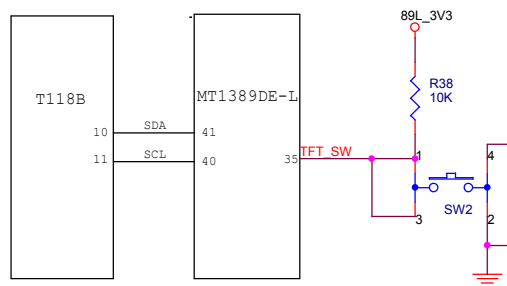

Figure 3.2.7.1 Screen off detect control circuit
1. Audio output circuit block diagram is shown as in the following figure 3.2.7.1:
As shown in the figure 3.2.7.2, after volume adjustment of the audio signals outputted from U8 through VRJ8, input from pin 6, 11 of U10 respectively; audio signals after being amplified output from pin 5, 12 of U10 to headphone socket for perform converse between headphone and speaker.
PT-2303S drive speaker adopts bridge connection. That drives headphone is single ending working mode and its switch between them is fulfilled by HP-IN pin. As shown in the figure 3.2.7.2, when headphone is inserted into a jack, a $4V \sim VDD/2$ voltage is added to HP-IN, which may cut off internal operational amplifying module Amp2A and Amp2B to make the load connected by bridge invalid. Now IC lies in single ending working mode and speaker has no sound output. When no headphone is connected to jack, partial pressure resistance of R116, R117 makes the voltage supplied to pin HP-IN (pin 16) close to 50mV, drive Amp2A and Amp2B are in working state to make 2303-S work in bridge mode and transmit to speaker through drive board to make speaker has sound output.
1. Screen off detect control circuit is shown as in the following figure 3.2.7.1: